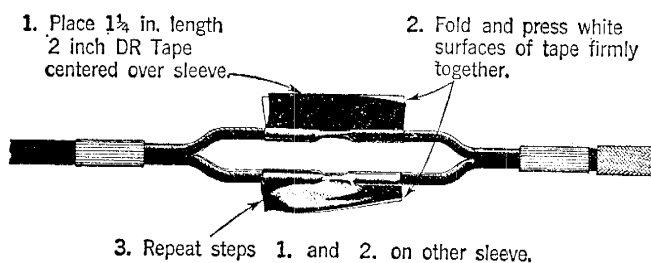

Fig. 8
4.01 Over each pressed sleeve fold a 1-1/4 inch length of 2-inch DR Tape as shown in Fig. 8.